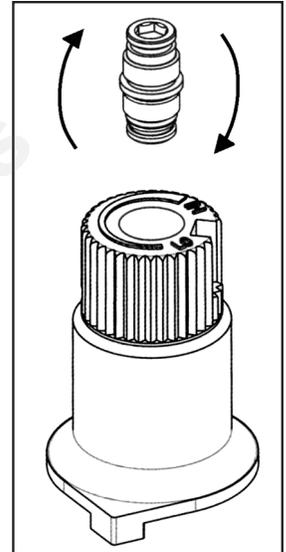

Figure 9: Flip valve screw.
d) Flip the screw (refer to Figure 9).